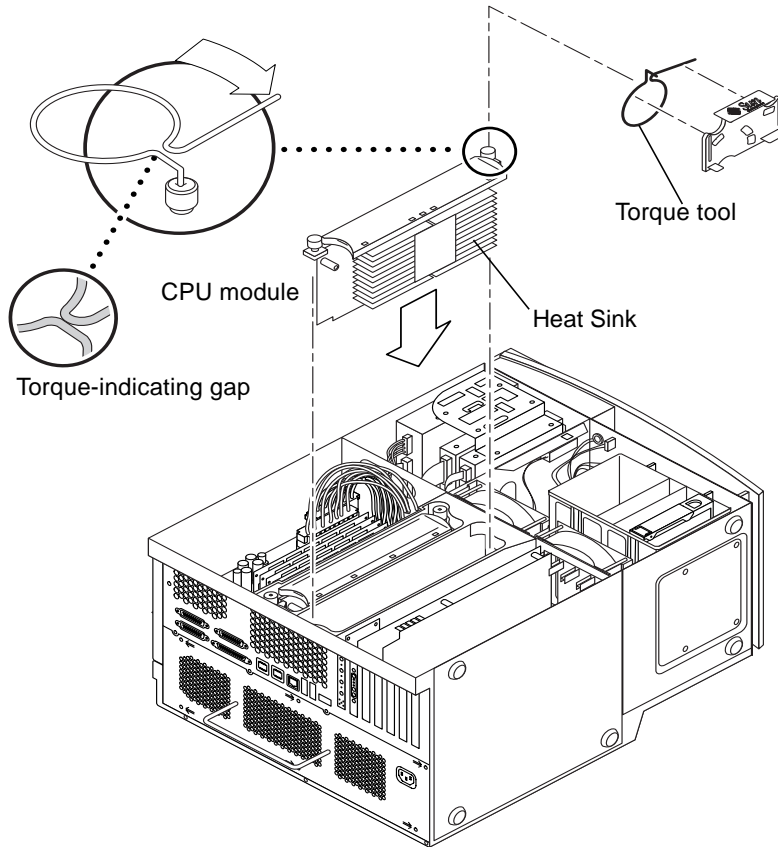

FIGURE 8-1 Removing and Replacing a CPU Module
1. Lower the CPU module into the CPU shroud until the module's captive screws are aligned with the screw holes in the CPU shroud (FIGURE 8-1).
Use the torque indicator tool to tighten the screws to the correct torque. As seen in FIGURE 8-1, the correct torque setting is indicated when the gap in the torque indicator tool is closed.